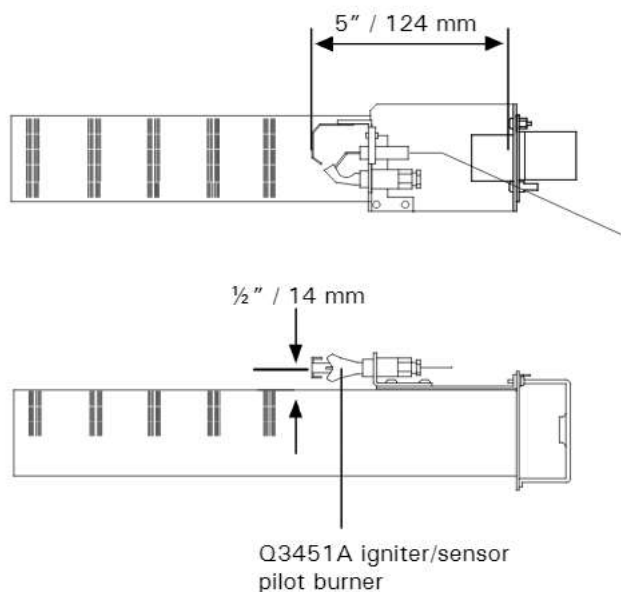

Fig. 14a
For ECV boiler with Honeywell intermittent pilot (spark) ignition, the main burner for mounting the Q3451A pilot assembly contains one less group of main burner ports (5). If the burners are disassembled or replaced for any reason, they must be reassembled as shown in Figs. 14a, 14b, 14c, 14d. If the Q3451A pilot assembly is accidentally assembled into a 6 port burner, it will be exposed to the flames from the first row of ports and will overheat and become defective. Defective pilot will prevent boiler from operating, which could cause property damage from freezing.